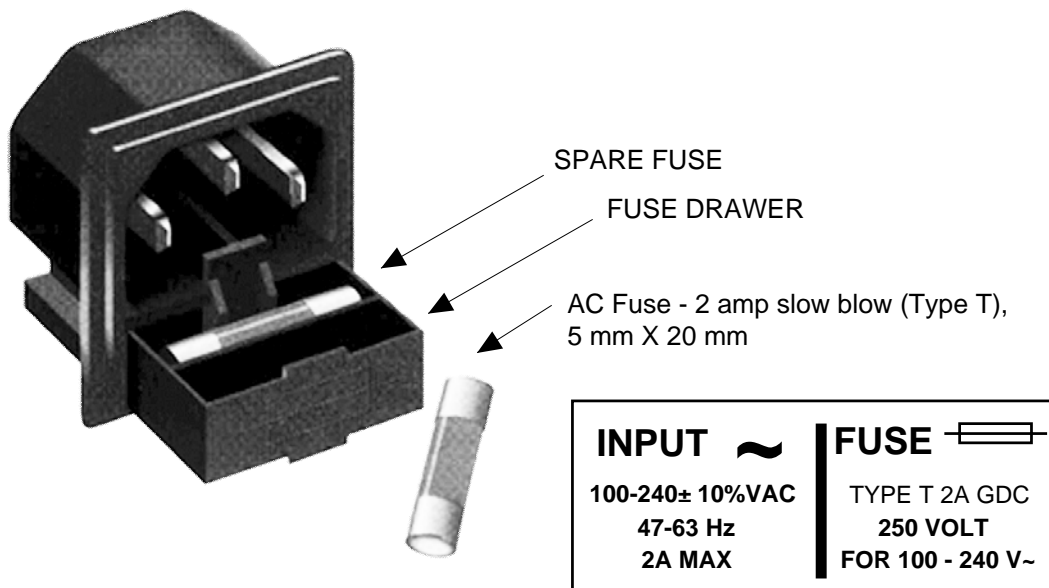

FIGURE 2.4 Fuse Location and Spare Fuse
6. AC Fuse - The fuse is a 5 mm X 20 mm, 2 amp slow blow (Type T) and is inserted in the far slot in the drawer below the AC input as shown in Figure 2.4. There is a spare fuse in the near slot.